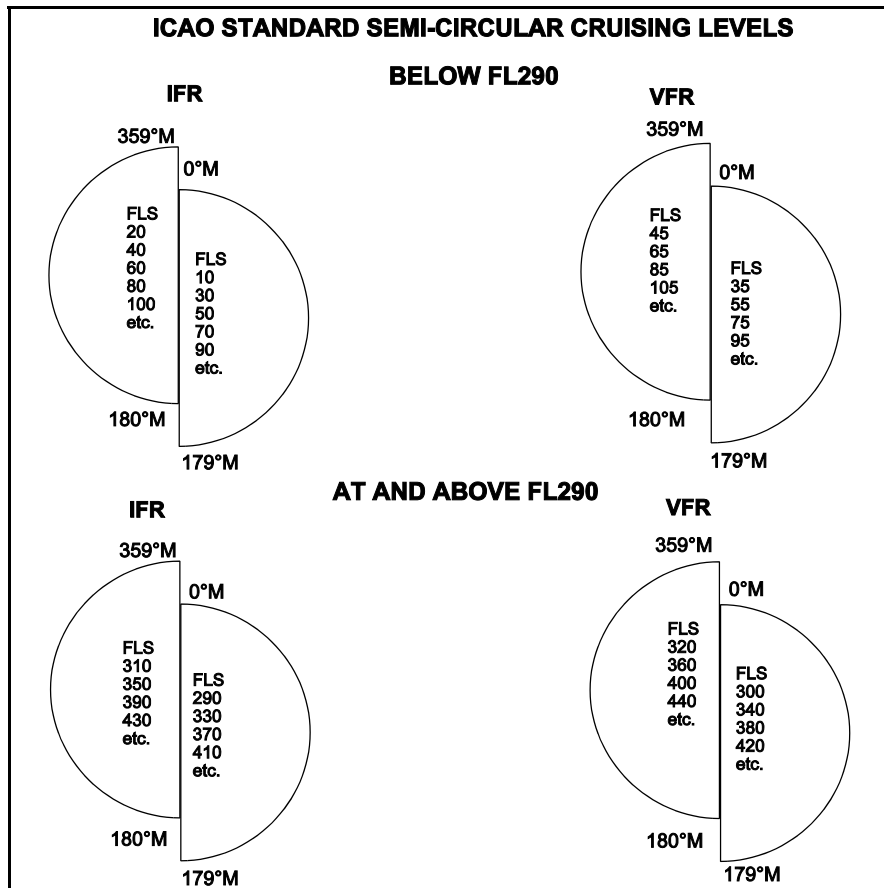

Figure 2.1. ICAO Semi-Circular Cruising levels
- The ICAO Standard Semi-Circular Cruising Levels. (See Figure 2.1)
(See Figure 2.1 and bottom of the chart)
The choice of safe Flight Level is determined by the aircraft's planned **Magnetic track** (not heading), stated obstacle clearance allowance and regional forecast QNH. For VFR flight for SEP and MEP aircraft the **BELOW FL290 VFR** diagram, top right of figure 2.1, is the reference. Flight Levels for a track between 0°M and 179°M are **odd levels plus 500ft**; for tracks between 180°M and 359°M they are **even levels plus 500ft**.